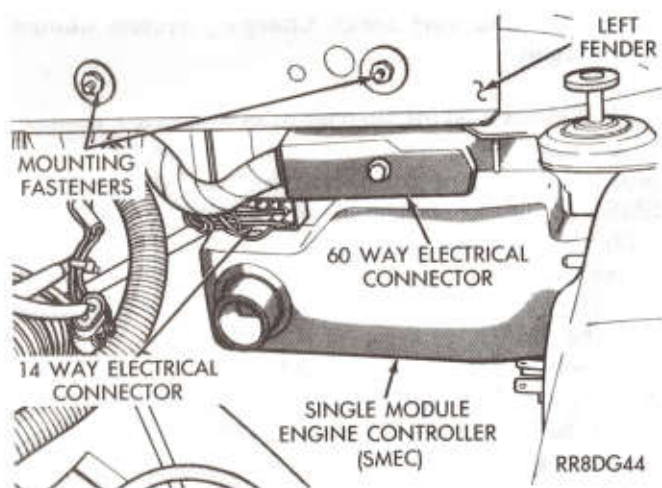
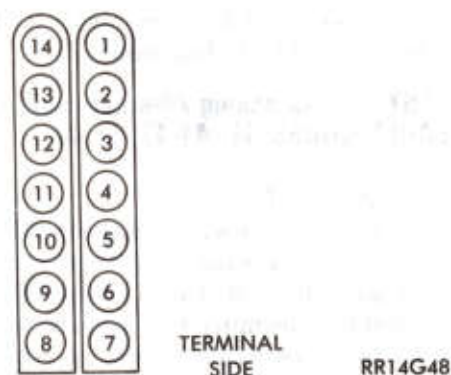

Fig. 1—Location of SMEC
Fig. 3—14-Way Harness Connector at SMEC
(1) Review Test 1A.
(2) Connect a diagnostic tool (see Group 14, Fuel Injection) to diagnostic connector located in engine compartment (Fig. 3).
(3) Select diagnostic mode Engine Running Test 61. If display reads .2 to 3 volts, proceed to Test 2B. If display does not read .2 to 3 volts, replace the SMEC (see Group 8D, Ignition System).
(1) Review Test 1A, turn ignition to the OFF position.
(2) Disconnect the 60-way connector from the SMEC (Fig. 1).
(2) Disconnect the 14-way connector from the SMEC (Fig. 1) and separate the connector halves (Fig. 3). Plug back into SMEC the half of the connector containing cavities 1-7.
(3) Using an analog voltmeter, connect positive voltmeter lead to cavity 14 (R3-18DG) and negative lead to cavity 11 (R31-20DG/OR) of connector half not plugged into the SMEC.
(4) Select diagnostic mode ATM Test 9. If voltmeter reading is pulsating between 0 and 12 volts, verify the connector to SMEC pin contact. Replace the SMEC (see Group 8D, Ignition System).